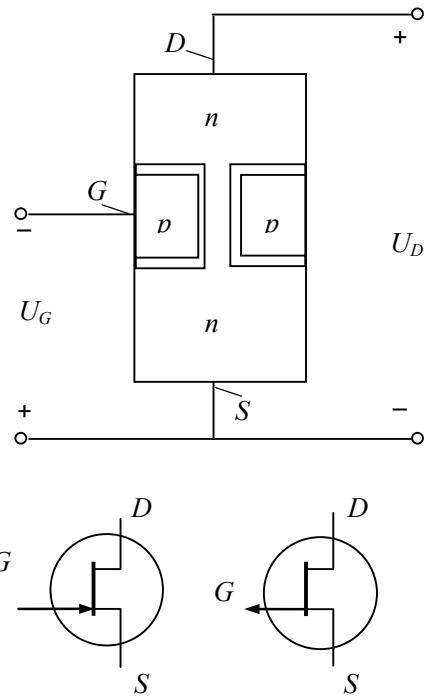

Fig. 1.32
**Structure.** Fig. 1.32 illustrates the normal way to bias a JFET. The bottom lead is called a *source*, and the top lead is a *drain*. The source and the drain of a JFET are analogous to the emitter and collector of the bipolar transistor. In the case of a *p*-channel JFET, a *p*-type material with different islands of *n*-type material is used. The action of a *p*-channel JFET is complementary, which means that all voltages and currents are reversed.
Fig. 1.32 shows schematic symbols of *n*-channel and *p*-channel JFETs also. A schematic symbol of the *p*-channel JFET is similar to that of the *n*-channel JFET, except that the gate arrow points from the channel to the gate.